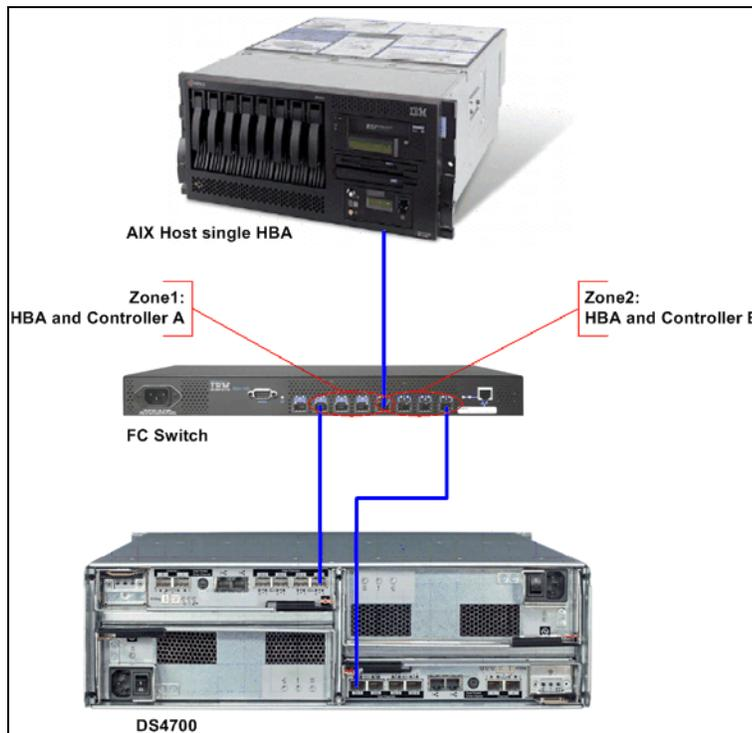

Figure 5-15 Single HBA configuration in AIX environment
- ▶ Single HBA configurations are allowed, but each single HBA configuration requires that both controllers in the DS4000 storage server be connected to the HBA through a switch with both controllers zoned to the HBA, as shown in Figure 5-15.